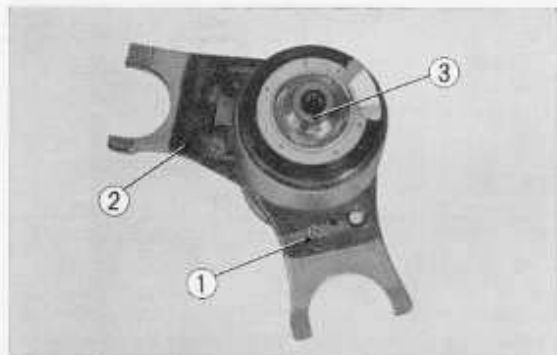

Fig. 3.102 "R" mark on the RH gear shift fork
When assembling the gear shift forks, caution not to reverse the LH and the RH forks. The RH gear shift fork is marked "R" (1). After the assembly, check for operation. (Fig. 3.102)